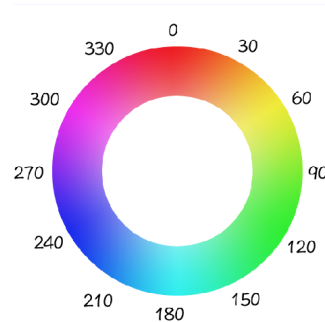

Figure 46: Color wheel reference
**Hue :** The hue is coded following the angle which correspond to it on the Color Circle seen in Figure 46